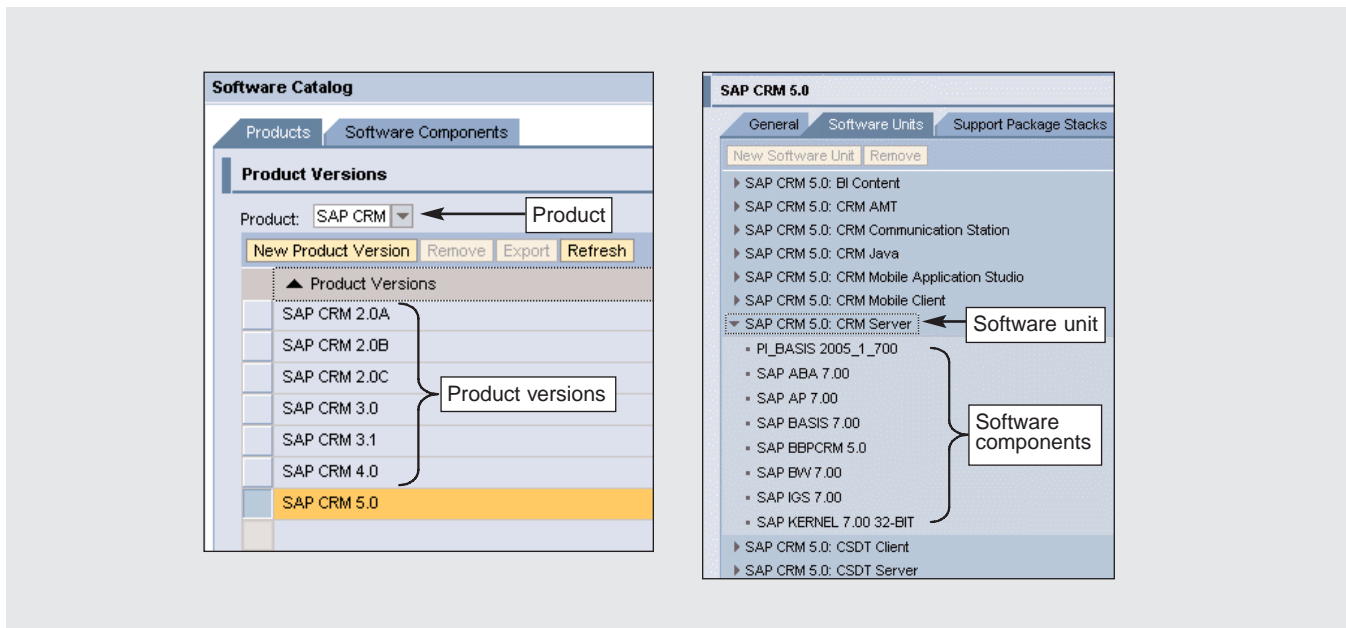

Figure 2 Component information displayed in the SLD of SAP NetWeaver 2004s
Figure 2 shows the main elements of component information as they appear in the 2004s version of SLD:
- A **product** is a collection of installable, upgradeable components that is delivered to a customer. Based on the components it contains, a product has different releases, which are known as **product versions**. For example, as you can see in Figure 2, SAP CRM is a product and has versions 2.0A, 2.0B, 2.0C, 3.0, 3.1, 4.0, and 5.0.
- A **software unit** is a grouping of related software components that together with other software units constitute a product. A software unit is a logical link between the product version and the software components that compose that version of the product. In Figure 2, for example, the software unit CRM Server is one of several software units that make up the CRM 5.0 product.
- A **software component** contains the actual technical software that enables a product to operate. In Figure 2, for example, SAP Basis 7.00 (under SAP CRM 5.0: CRM Server) is one of many software components that make up the CRM Server software unit, which in turn is one of many software units that make up the CRM 5.0 product. Software components can be reused among various products — for example, the same SAP Basis 7.00 software component used in the CRM 5.0 product also is used in the SAP ECC 6.0 and SAP AII 4.0 products — which simplifies upgrades and maintenance.